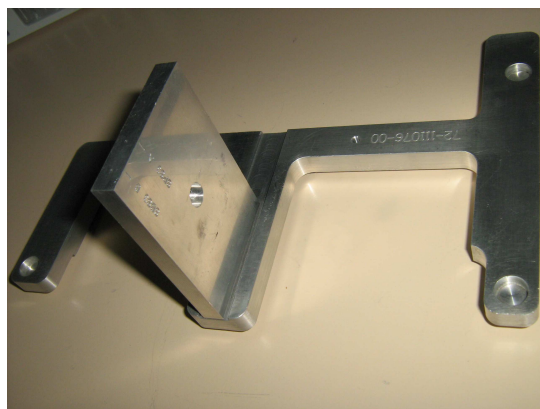

Figure 1: Top Layer Plane Alignment Tool
- Alignment tool (see Figure 1)